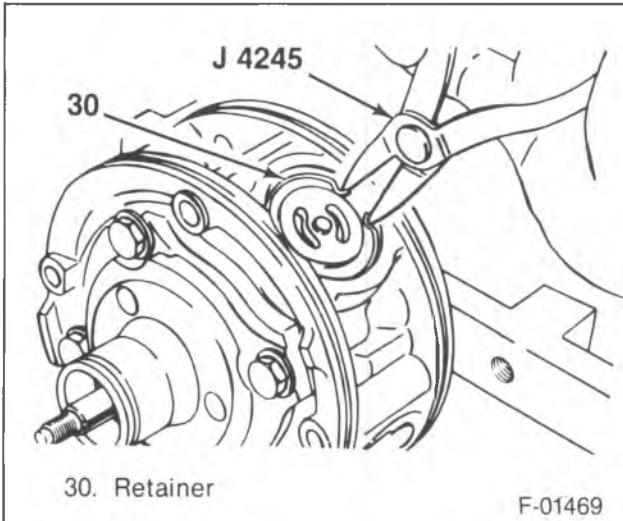

Figure 26—Replacing the Valve Plate Retainer
1. Clutch drive hub (3).
2. Rotor (5) and bearing (6) assembly.
3. Compressor shell (18).
4. Retainer ring (30) with J 4245 (figure 26).